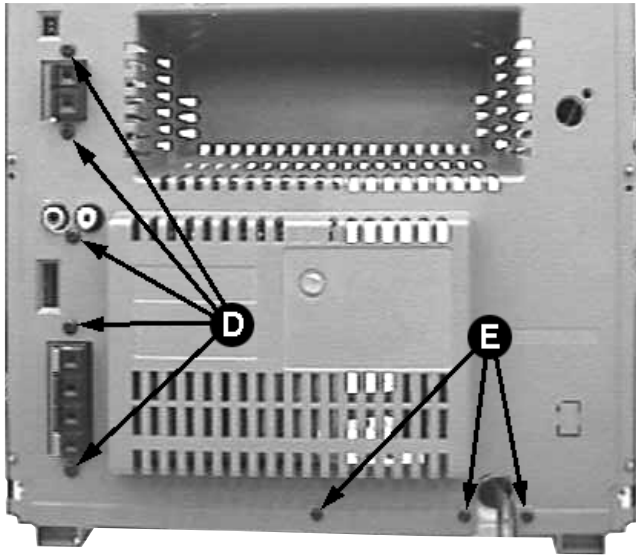

Figure 7
- 1) Loosen 5 screws D mounting the Combi board to the Rear Panel (pos 256) as shown in figure 7.
- 2) Loosen 3 screws E and release the 2 catches on the sides of the Rear Panel to separate it from the Bottom plate (pos 265).